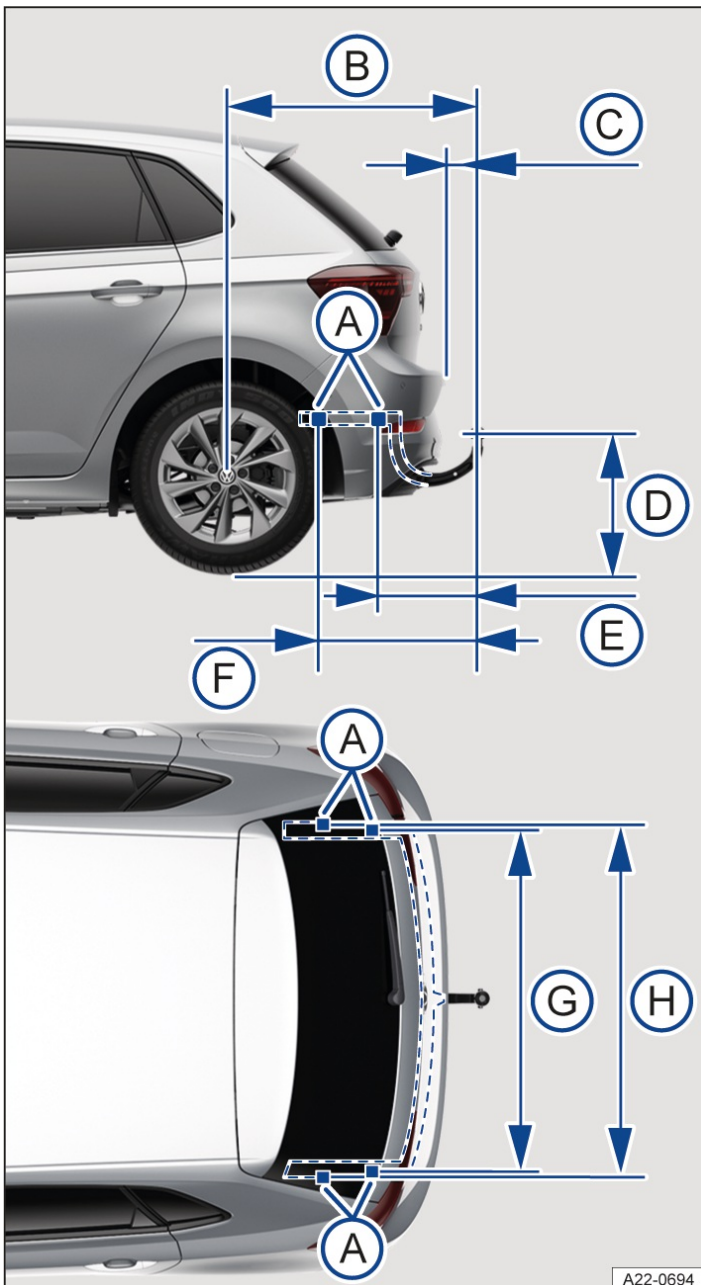

Fig. 1 Dimensions and mounting points for retrofitting a towing bracket.
The distance dimensions → Fig. 1 must be observed in all cases when retrofitting a towing bracket. Always observe the minimum distance given from the middle of the ball coupling ④ to the surface of the road. This also applies when the vehicle is fully laden, including maximum drawbar load.
① Attachment points.